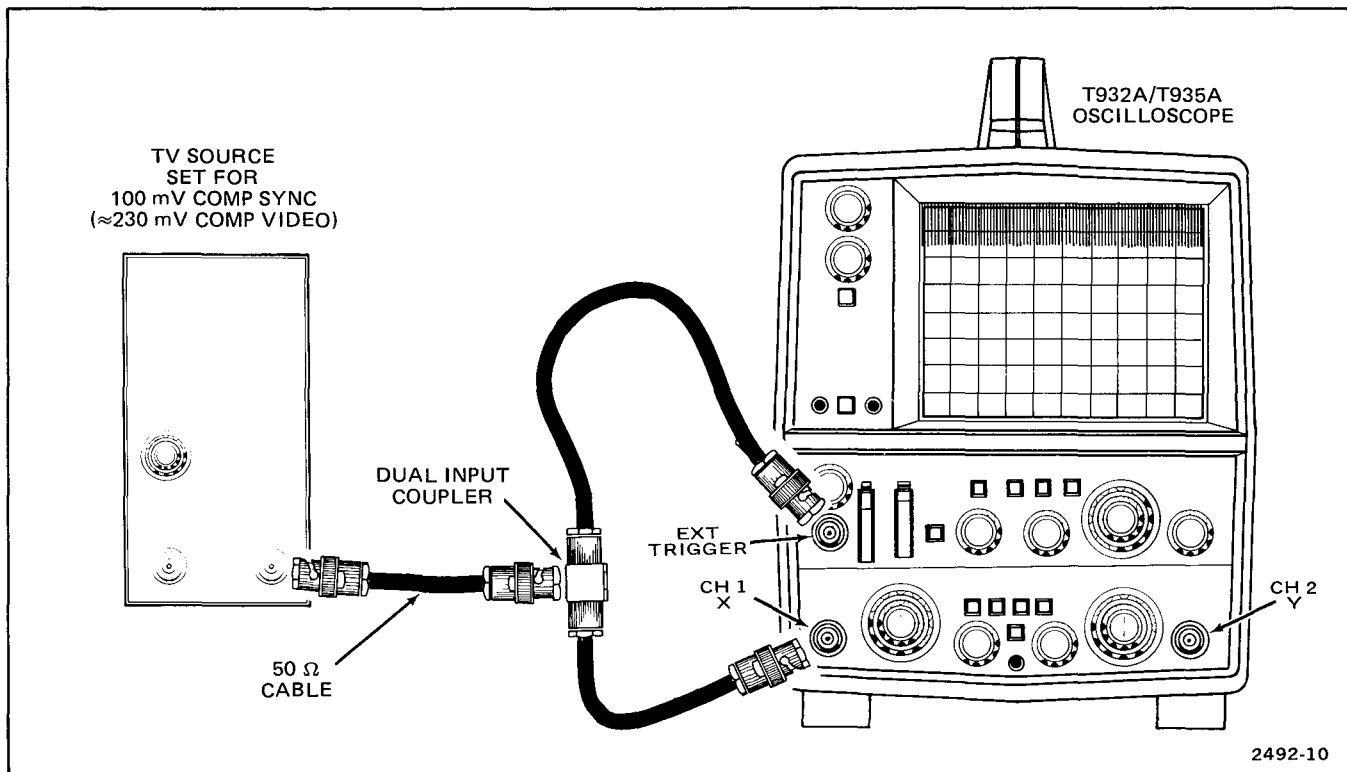

Fig. 3-5. TV trigger check test setup.
a. Connect test setup as shown in Fig. 3-5.